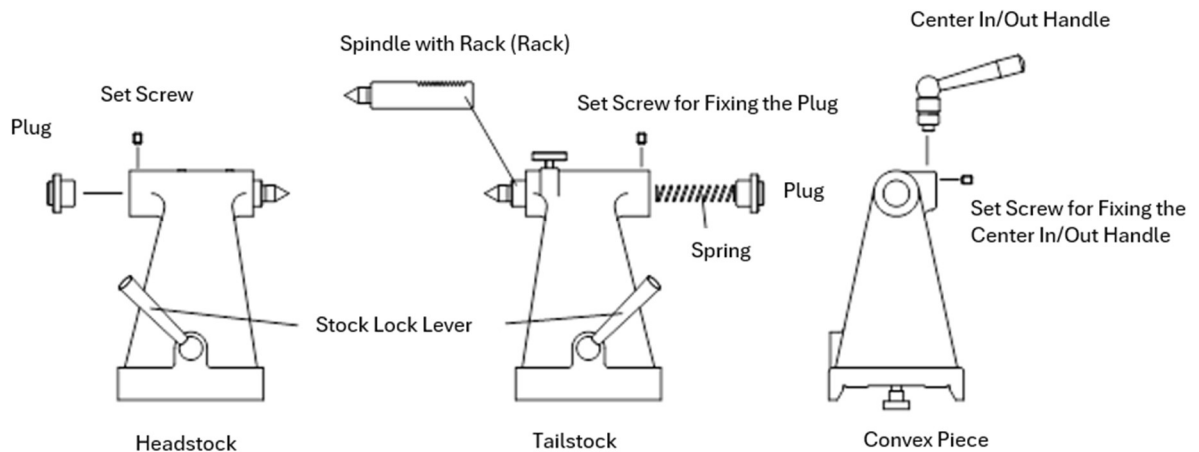

Figure 4. Adjustment of the Convex Piece and the Center In/Out Handle
- ① As shown in Figure 4, loosen the set screw for fixing the plug and remove the plug.